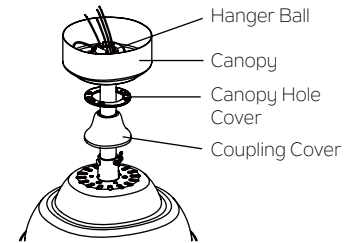

Fig. 9
Step 5. Slip the coupling cover, canopy hole cover and canopy onto the downrod. Carefully reinstall the hanger ball onto the downrod. Make sure the cross pin is in the correct position and the set screw is tight and the wires are not twisted . (Fig. 9)